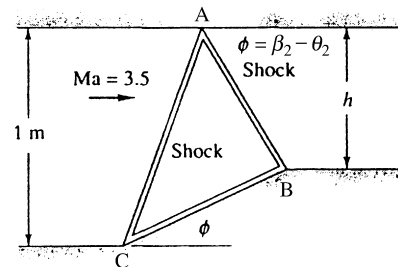

Fig. P9.136
**9.136** Figure P9.136 is a special application of Prob. 9.135. With careful design, one can orient the bend on the lower wall so that the reflected wave is exactly canceled by the return bend, as shown. This is a method of reducing the Mach number in a channel (a supersonic diffuser). If the bend angle is  $\phi = 10^\circ$ , find (a) the downstream width  $h$  and (b) the downstream Mach number. Assume a weak shock wave.